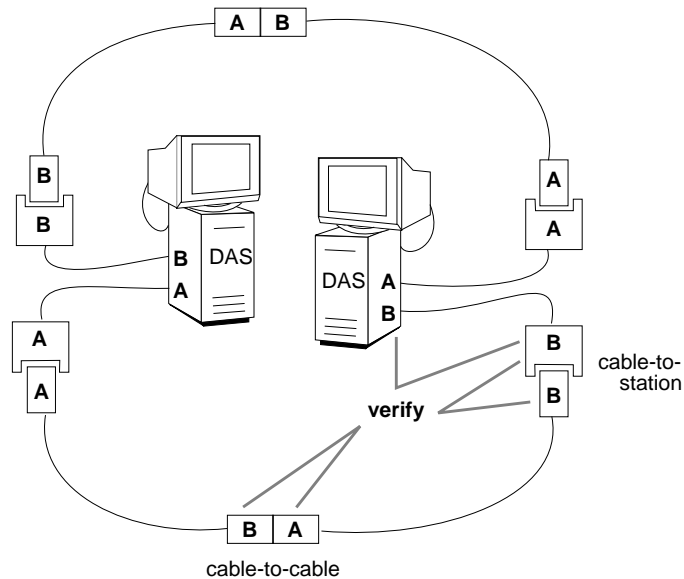

Figure 4-2 Correct Cable Connections
- For cable-to-cable connections, the labels on the two cable connections must pair as a valid (V) connection, as summarized in Figure 4-1, where U indicates that the connection is undesirable, invalid indicates that it is invalid, and V indicates it is valid. Figure 4-2 illustrates valid connections for a typical ring.